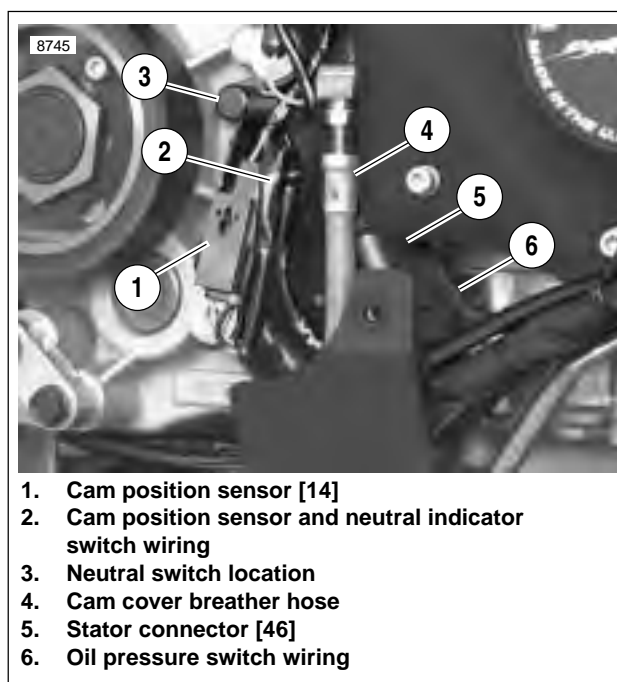

Figure 7-86. Cam Position Sensor Wiring
3. Connect stator connector (9).
4. See Figure 7-86. Connect cam position sensor [14] (1). Form a loop (2) as shown using wiring leading to cam position sensor.